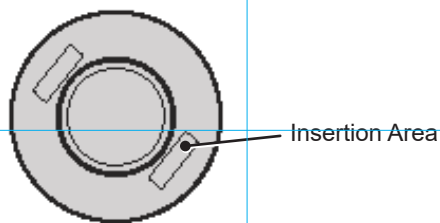

Figure 34, Plug Seal (26)
Refer to Figure 34
In order to gain access to the check plugs (24 & 25), it is necessary to remove the plug seals (26). This is accomplished by inserting a seal hook or puller into, and through, one of the insertion points (*rectangular recesses*) on the plug seal, refer to figure 34. After successfully removing the plug seals, discard and replace with new seals.